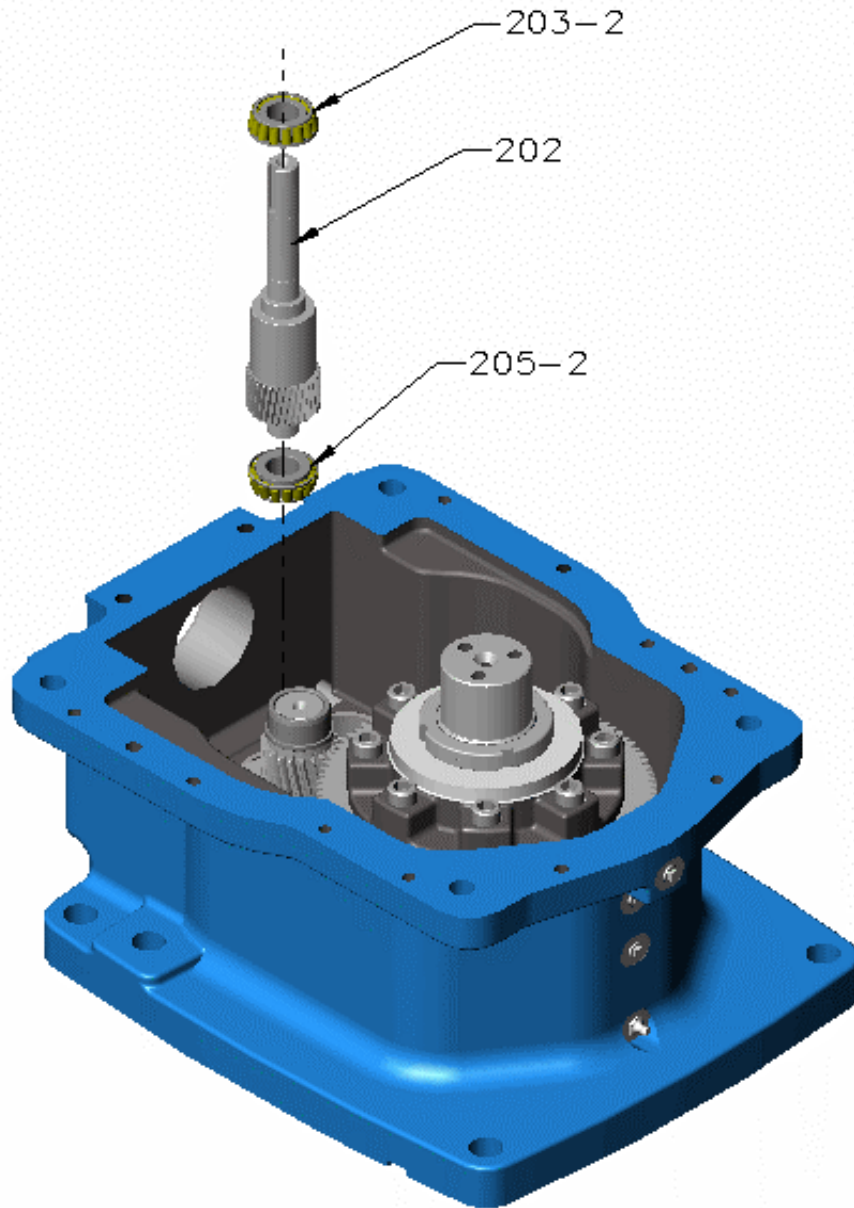

Figure 16 – Input Shaft
- L. Input shaft assembly (refer Figure 16):
- M. Install input shaft assembly in the bearing cup [205-1] (refer Figure 16).